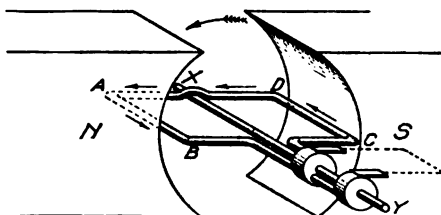
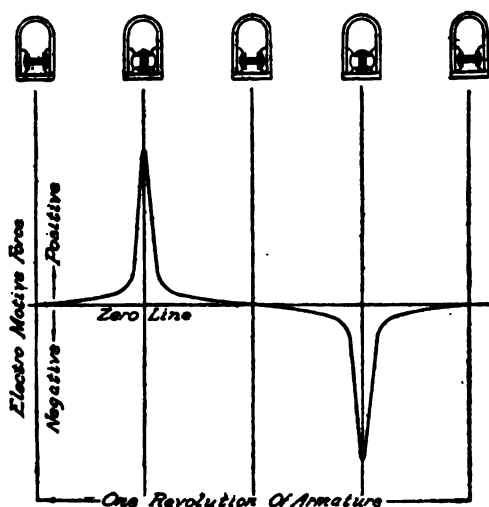

Fig. 17. Elementary Principle of Generator
Fig. 29. Curve of Primary E. M. F. in Magneto on Open Circuit
**Elementary Dynamo.** Whenever lines of magnetic flux are cut by a conductor, for example, by a wire passing through them, an e.m.f. (electromotive force) is produced in the conductor, and the strength of this e.m.f. is entirely dependent upon the speed at which the conductor passes through the magnetic field. If, at the time that this is done, the ends of the wire are brought together to form a circuit, a current will be induced in the conductor. The simplest form of generator would consist of a single loop of wire *ABCD* arranged to rotate in a magnetic field, as shown by Fig. 17. Having its plane parallel to the direction of the magnetic flux, the loop, if it be rotated to the left as shown, will have an e.m.f. induced in it that will tend to cause a current to flow in the direction shown by the arrows. The e.m.f.'s induced in *AB* and *CD* for the position shown will have their maximum values since the wires are then cut-
of the magnetic flux through the armature core reverses. Having a two-pole armature, the magneto produces an alternating current of one complete cycle per revolution, as shown by the curve, Fig. 29, which illustrates the electromotive force generated at the different positions in the rotation of the armature. The similarity between this curve and the one generated by the elementary dynamo, Fig. 17, will be noted. With the armature in the horizontal position there is a dead point, the e.m.f. curve only starting as the pole pieces of the armature begin to cut the edges of the field magnet poles. It then rises very sharply to a peak, and as sharply drops